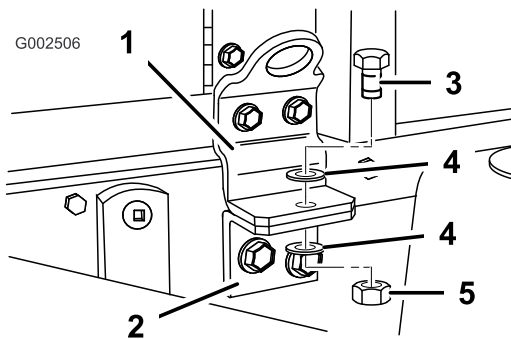

Figure 5
3. Remove the safety bolts from the front of the skid (Figure 5).